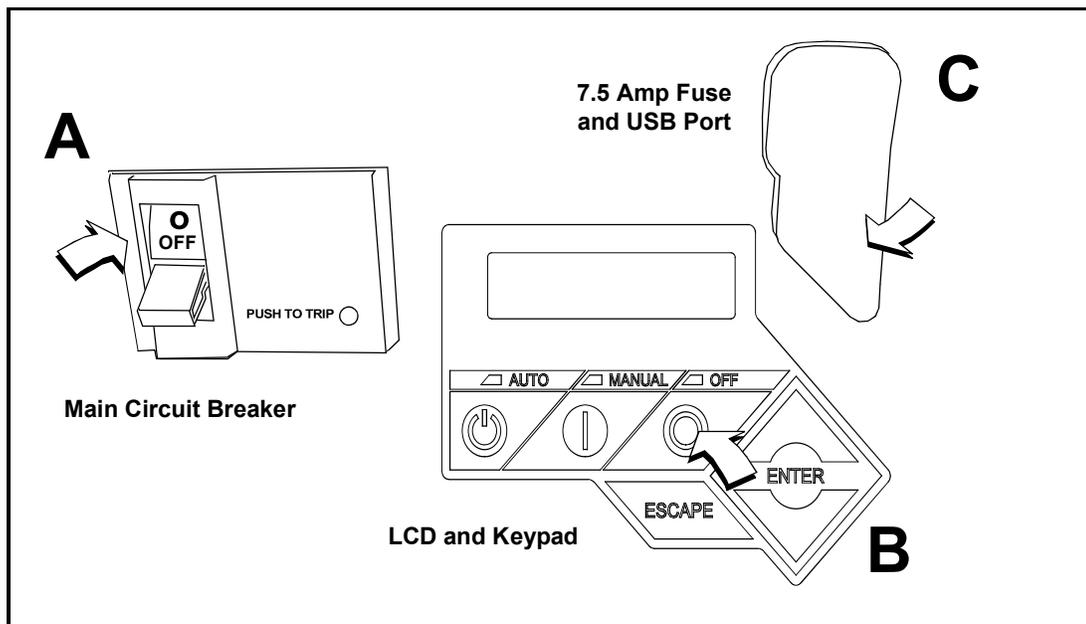

Figure 5-6. Generator Control Panel
2. Move the Main Circuit Breaker switch down to the OFF (Open) position. See A of Figure 5-6.
3. Press the OFF key on the control panel keypad. The red LED above the key illuminates to confirm that the system is in the OFF mode. See B of Figure 5-6.
5. Pull up rubber flap covering fuse holder and remove 7.5 amp fuse. See C of Figure 5-6.